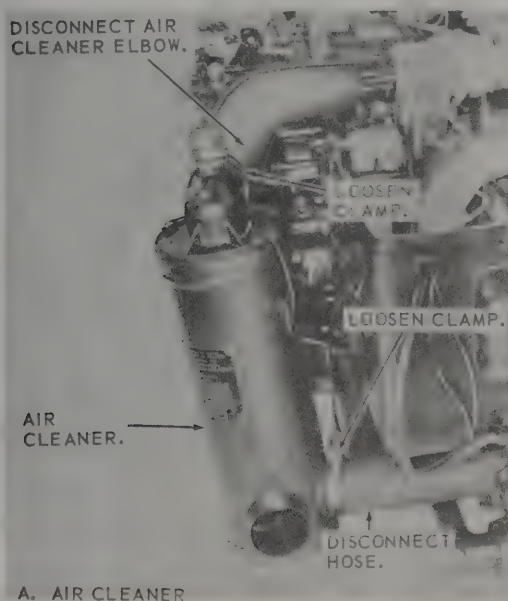

Figure 3-10. Air cleaner and support bracket, removal and installation.
a. *Removal.* Refer to figure 3-10 and remove air cleaner and support bracket.
(1) Clean all parts with an approved cleaning solvent and dry thoroughly.
(2) Inspect for cracks, breaks, dents, and other damage.
(3) Replace a damaged or defective air cleaner or support bracket.
c. *Installation.* Refer to figure 3-10 and install air cleaner and support bracket.